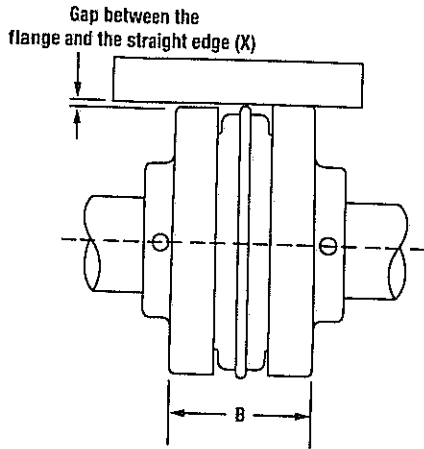

Figure 2: Parallel Measurement
5. Check the parallel offset by laying a straight edge across the OD of the flanges (Figure 2) in four places 90° apart without rotating the coupling. If the gap between the flange and straight edge exceeds the value in shown under "Parallel" in Table 1, realign the shafts.